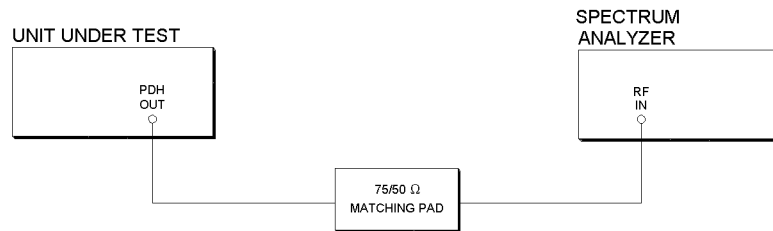

Figure 3-44
4. Connect up the equipment as shown in Figure 3-44.